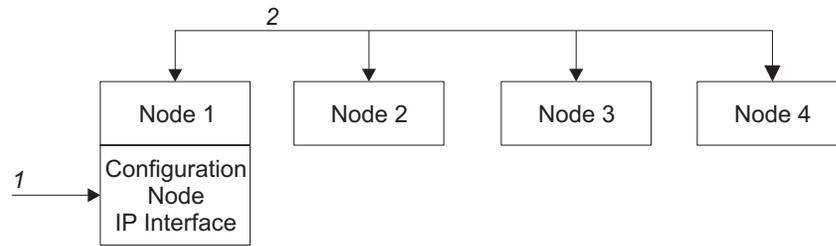

Figure 4. Configuration node
Figure 4 on page 11 shows an example cluster containing four nodes. Node 1 has been designated the configuration node. User requests (1) are targeted at Node 1. This can cause requests that are targeted at the other nodes in the cluster to have their data returned to Node 1.